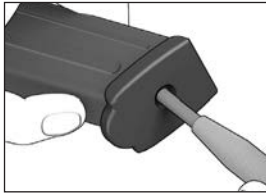

Figure 25
1. Using a punch, depress the locking plate located in the floorplate and hold it there (see Figure 25).